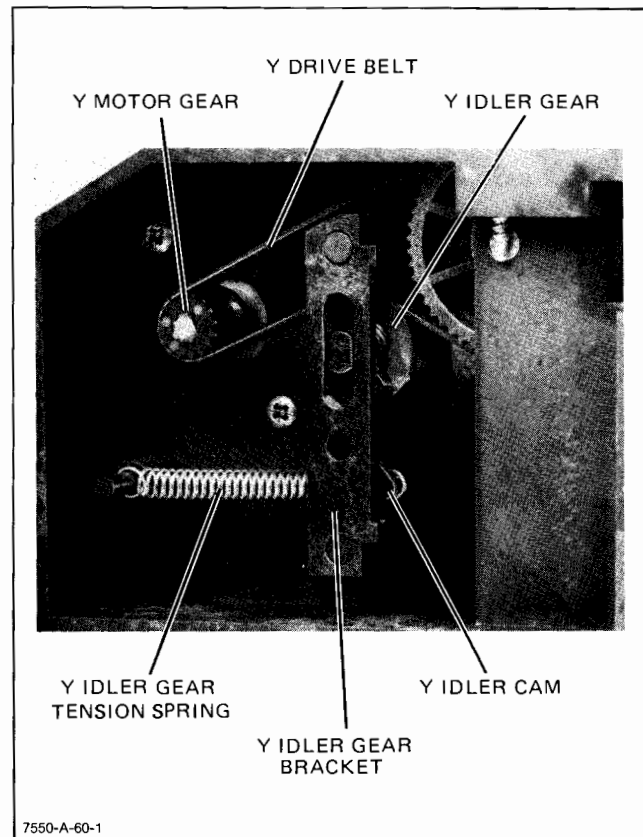

Figure 6-21. Y-Motor Idler Gear Removal
- Release the Y-idler gear tension spring from the standoff located on the back side of the X,Y carriage assembly. See Figure 6-21.
- Apply even pressure at the top and bottom of the Y-idler gear bracket and carefully pull the bracket with the idler gear off of the standoffs. Note the positioning of the idler gear and cam for easier reassembly. See Figure 6-21.